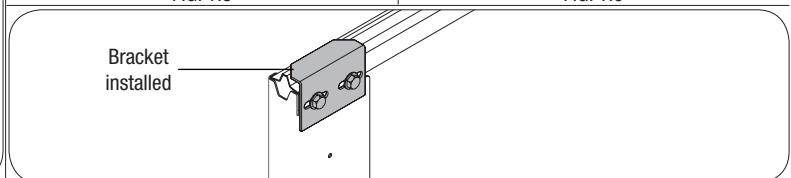

FIG. 1.8
Attach (2) 1/4" - 14 x 7/8" self-drilling screws to the bracket, as shown in FIG. 1.8.